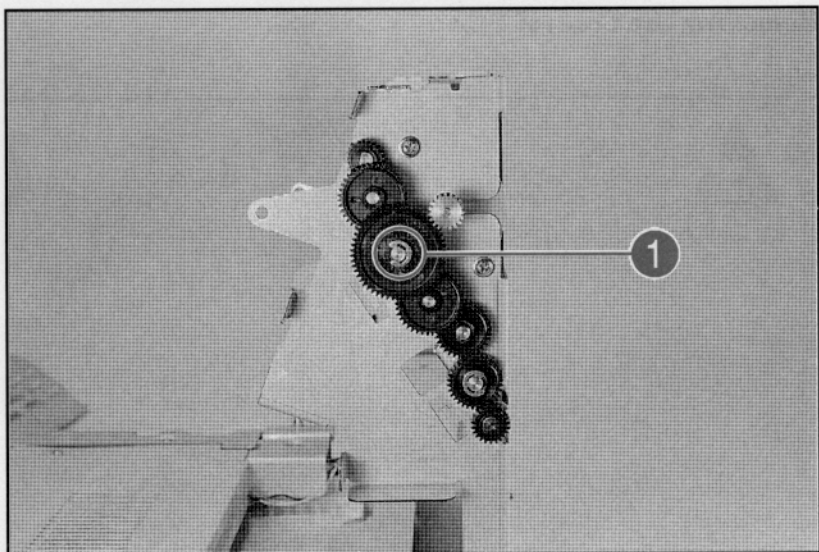

Figure A-15 Gears on Paper Roller
- 5 Remove the (1) E-clip from the gears on the shaft on the Power PCA side shown in Figure A-15, callout 1.